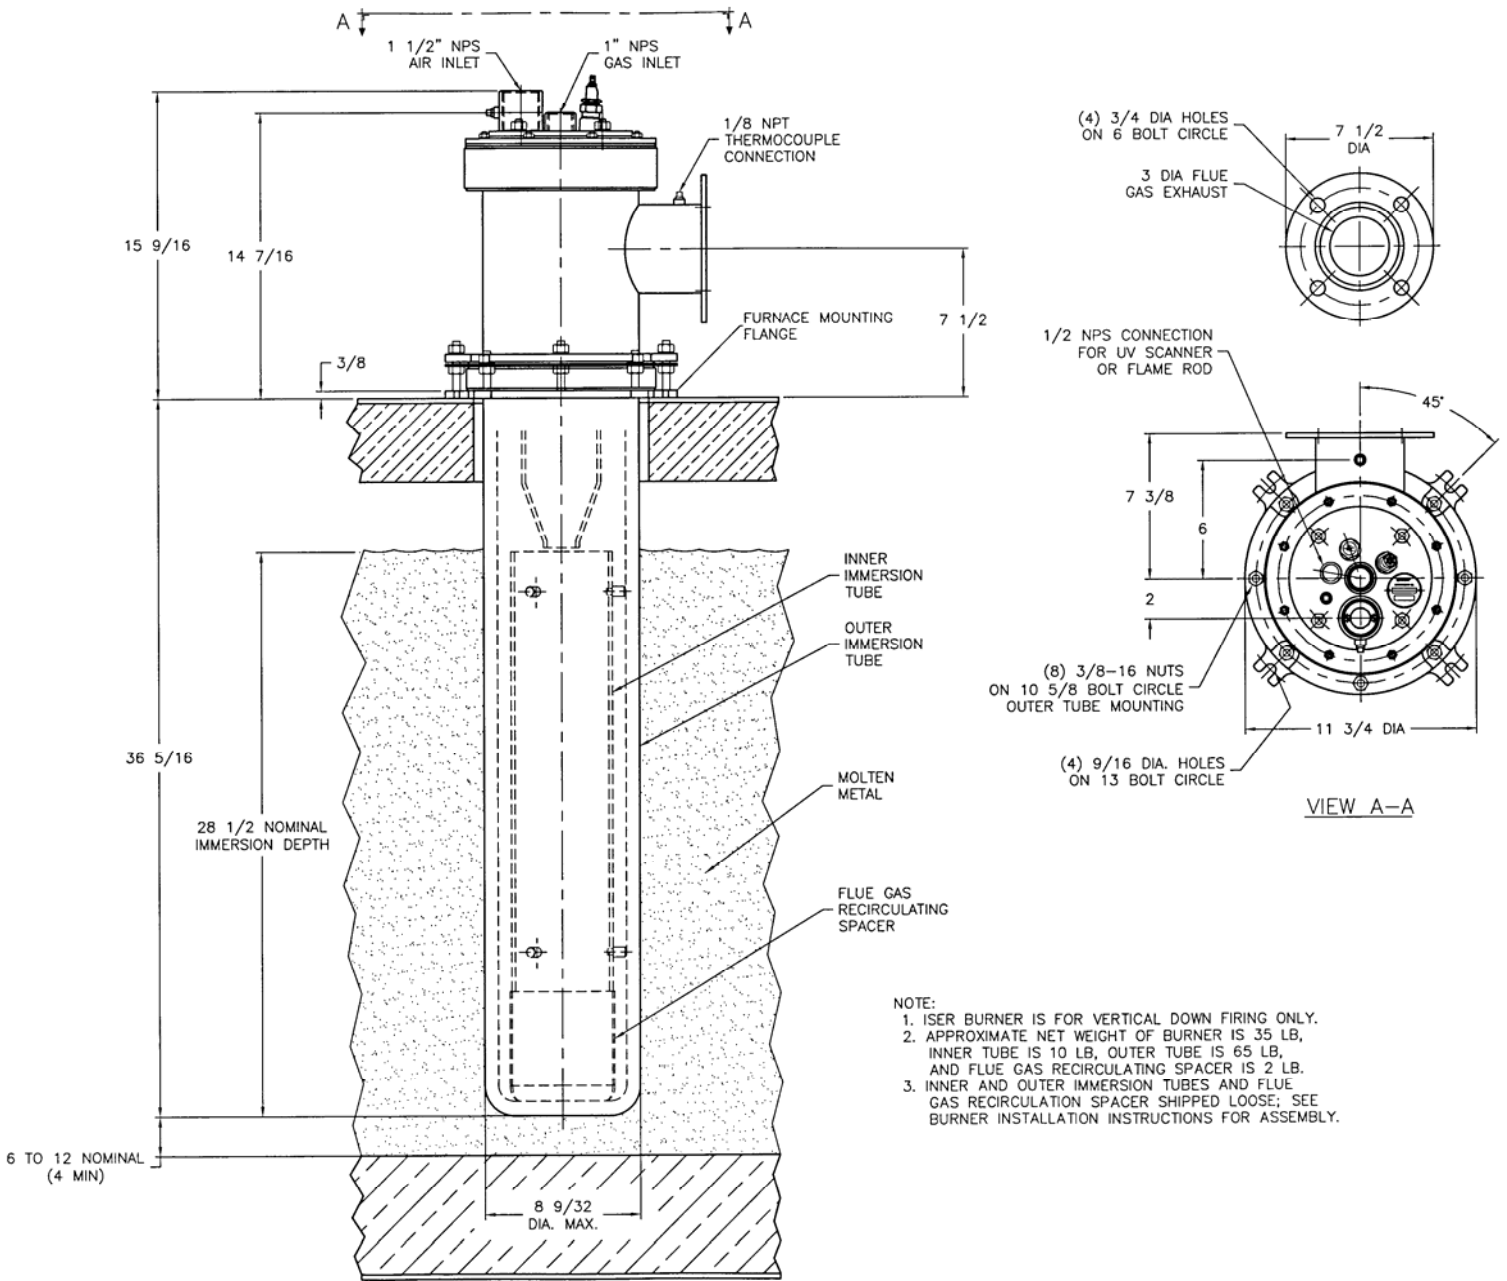

Figure 1. Dimensions
2. Weld the appropriate size studs of appropriate length to the furnace shell to accept the furnace mounting flange (5) per Figure 1 or 2.
3. Install the furnace mounting flange (5) on the furnace shell with appropriate washers and nuts.
4. Use care to position outer immersion tube (2) on horizontal surface.
5. Place flue gas recirculation spacer (4) into outer immersion tube (2) and use a wooden tool to gently insert until spacer bottoms out in the tube.
6. Place inner tube (3) into outer immersion tube (2) and gently insert until inner tube bottoms out on the spacer.
7. Place lower outer tube mounting gasket (6) onto furnace mounting flange (5), and gently insert outer immersion tube (2) until it seats on gasket.
8. Place upper outer tube mounting gasket (7) on top of outer immersion tube flange (2).
9. Place outer tube retaining ring (8) over upper outer tube mounting gasket (7).
10. Loosen all eight nuts [four (9) and four (11)] located below the outer tube retaining ring (8).